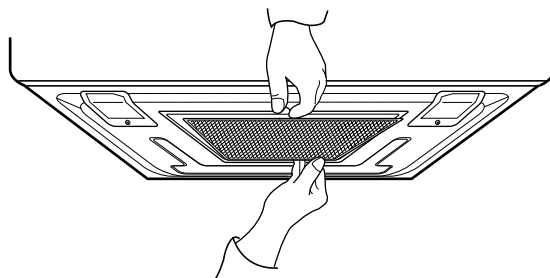

Figure 35
8. To install the grease filter: Slide it into the slide slot, then push up and toward oven center to lock. See Figure 35.